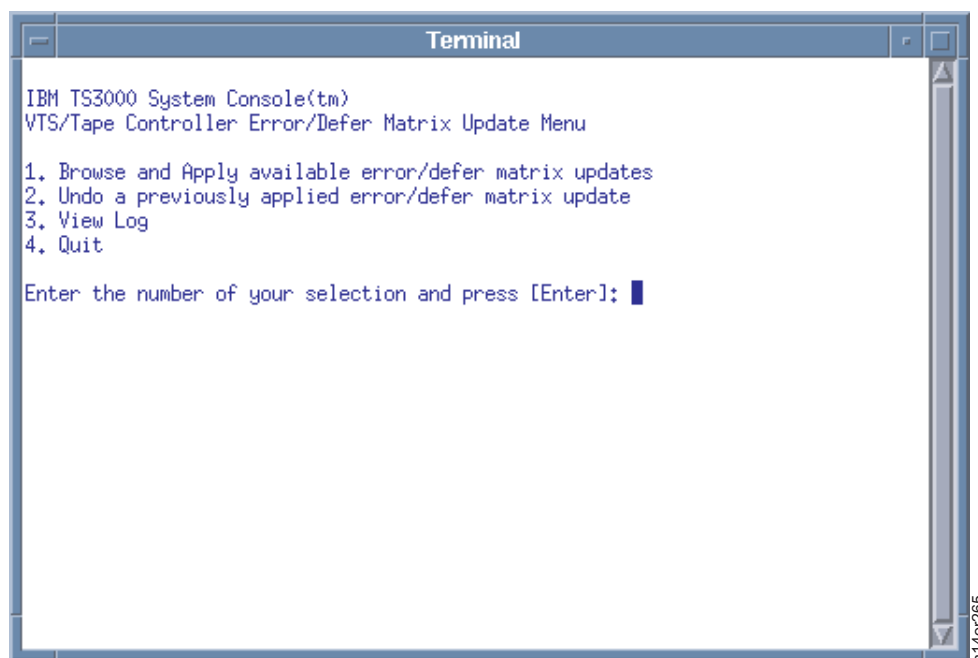

Figure 3-81. VTS, VTC, or Tape Controller Error or Defer Matrix Update Menu
2. Select **System Console Actions --> Error/Defer Matrix Updates** to start the Error and Defer Matrix updates tool. The dialog window in Figure 3-81 displays. This tool enables copying error/defer matrix updates at the System Console to attached VTS, VTC, or tape controller systems over the local network.